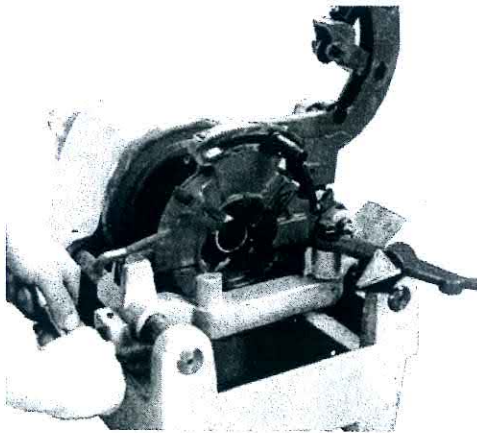

Fig 5
3. Pull up the cutting knife rack and beveling rack, push down the screwing die head, turn the carriage handle to let the die head join the pipe (Fig 5).